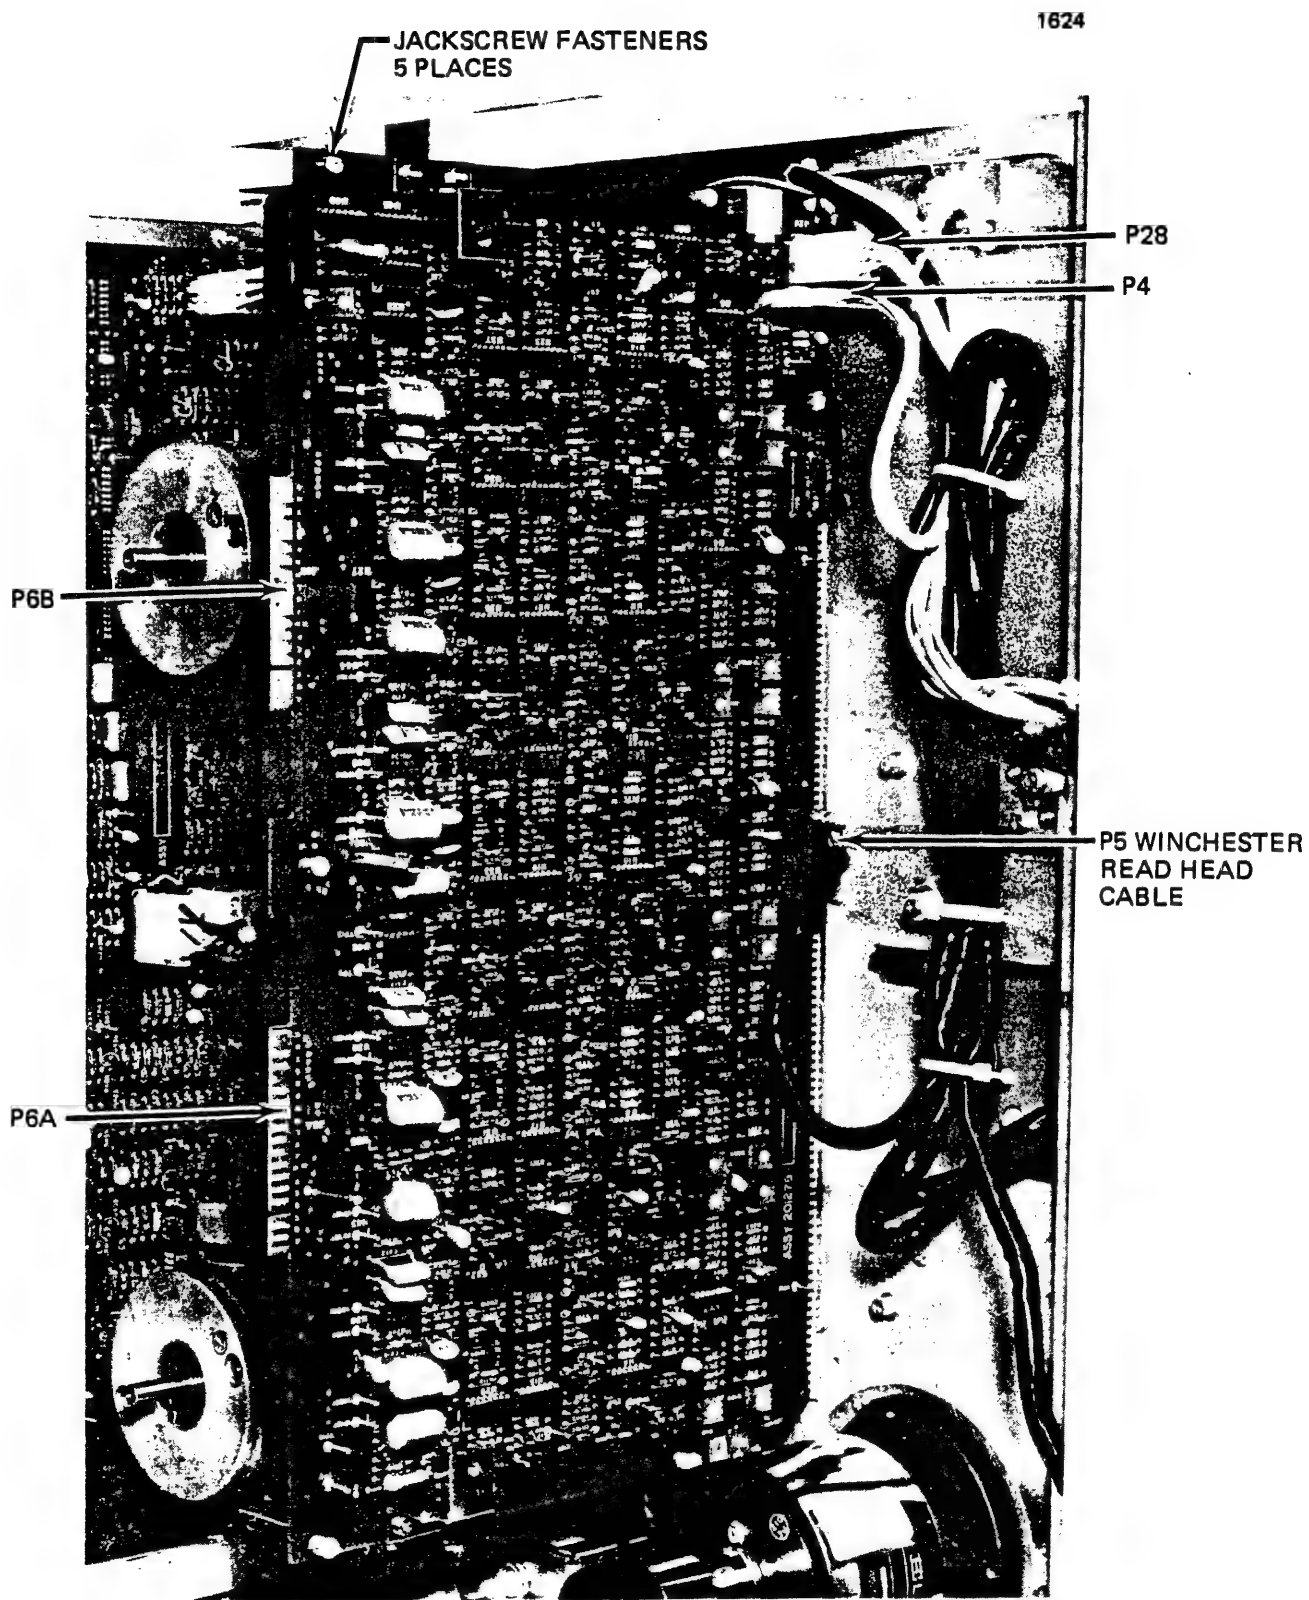

Figure 4-8. Read Data Electronics PWB Removal, Dual-Density System
4.3.2.2.2 Read Data Electronics PWB. To remove the Read Data Electronics PWB, see Figure 4-8 and use the following procedure: